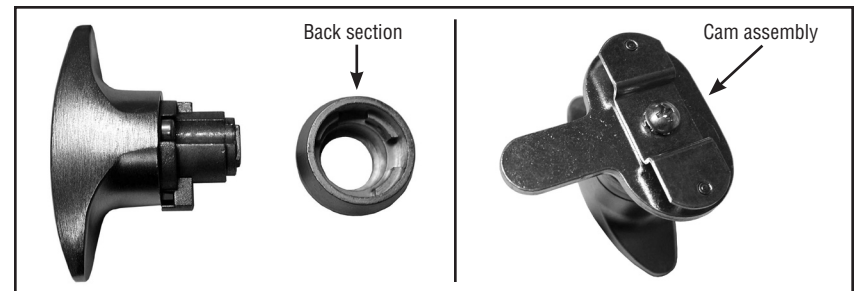

Figure 9
9. Replace the back section and cams, secure with cam screw. The assembly of the back section and cam assembly determine how the T-knob will be handed. For proper handing, refer to instructions for the T-knob lock. (Fig. 9)